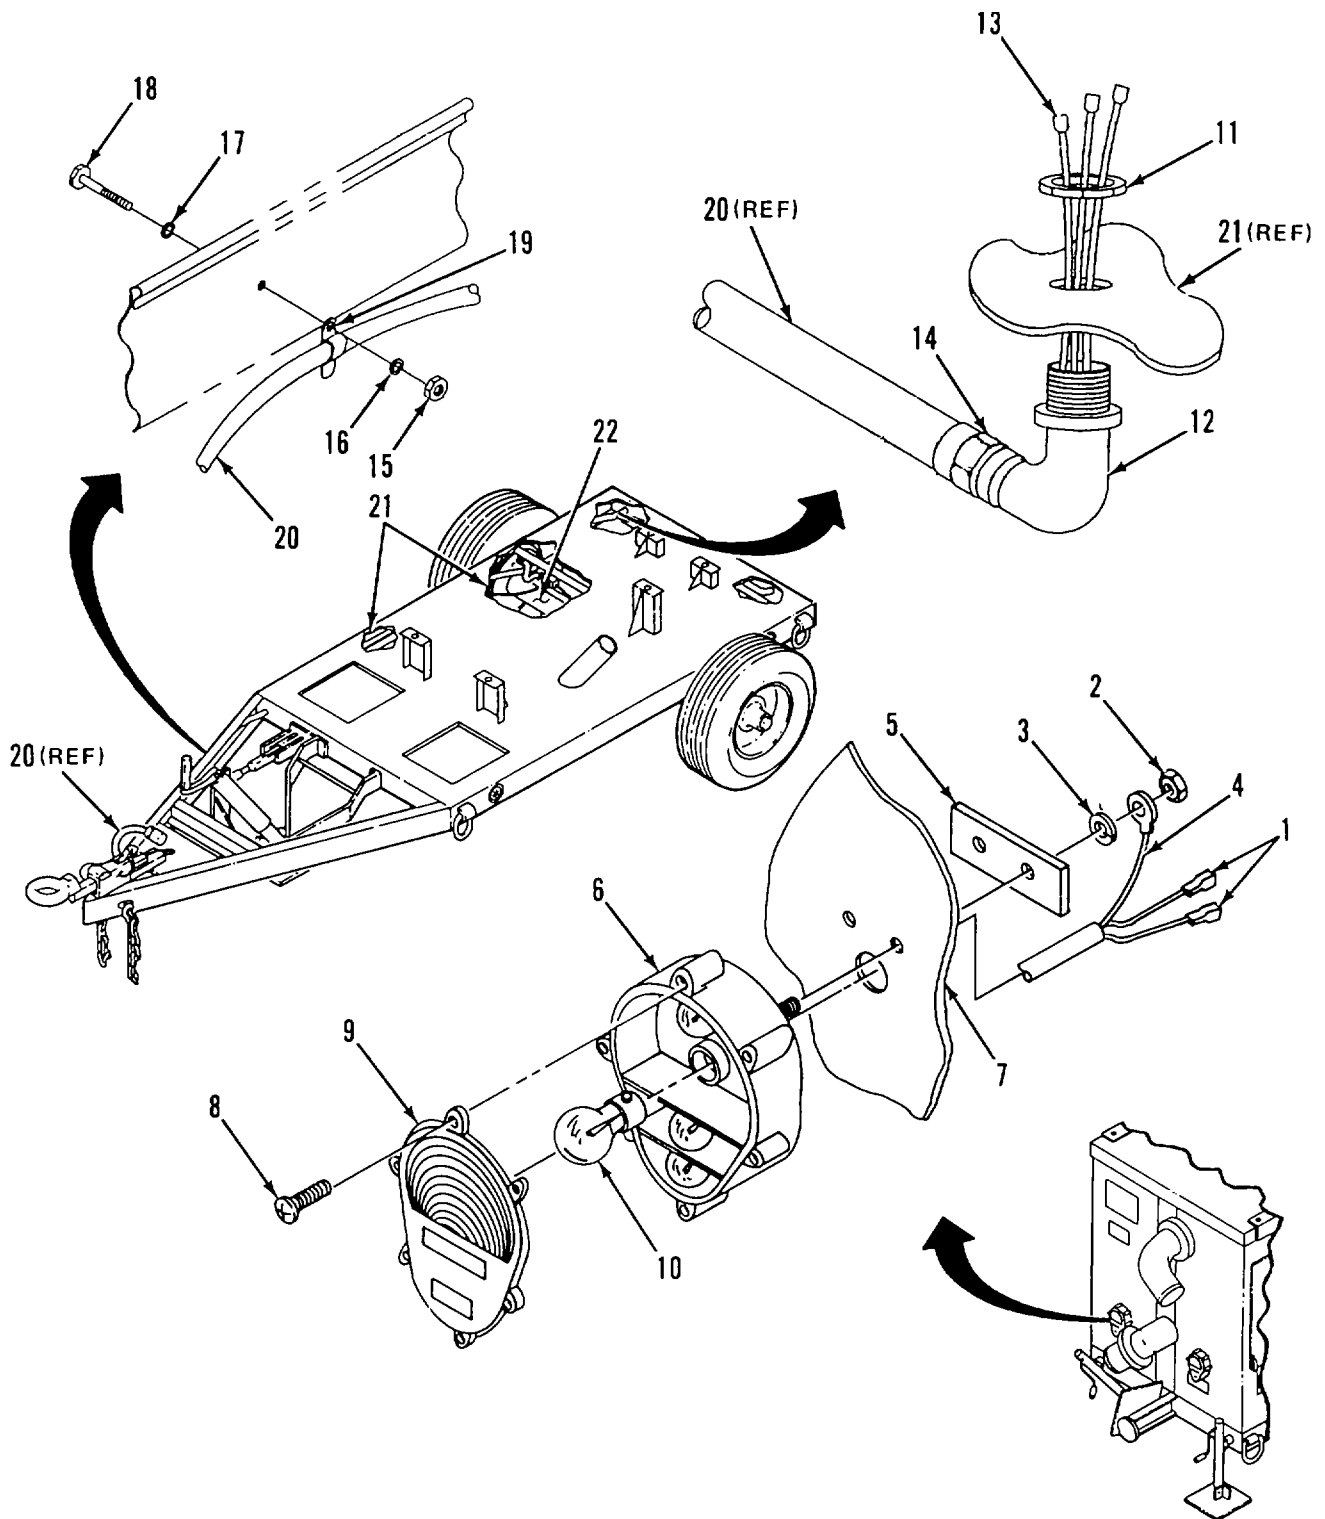

Figure 2-49. Wiring Harness and Tail Lights
- a. REMOVE. (Figure 2-49)
- (1) Remove tail lights as follows:
- (b) Disconnect wire connectors (1) to tail light (5).
- (c) Remove nuts (2), lockwashers (3), ground wire (4), and plate (5) holding tail light (6) to panel (7). Remove tail light.
- (d) Remove screws (8) and lens plate (9) on tail light assembly (6).
- (e) If necessary, remove bulbs (10).
- (2) Remove wiring harness as follows:
- (a) Remove nut (11) that secures elbow (12) to floor of chassis. Remove elbow (12) and tail light wires (13) to below chassis.
- (b) Loosen compression nut (14) from elbow (12). Remove elbow (12) from tail light wires (13).